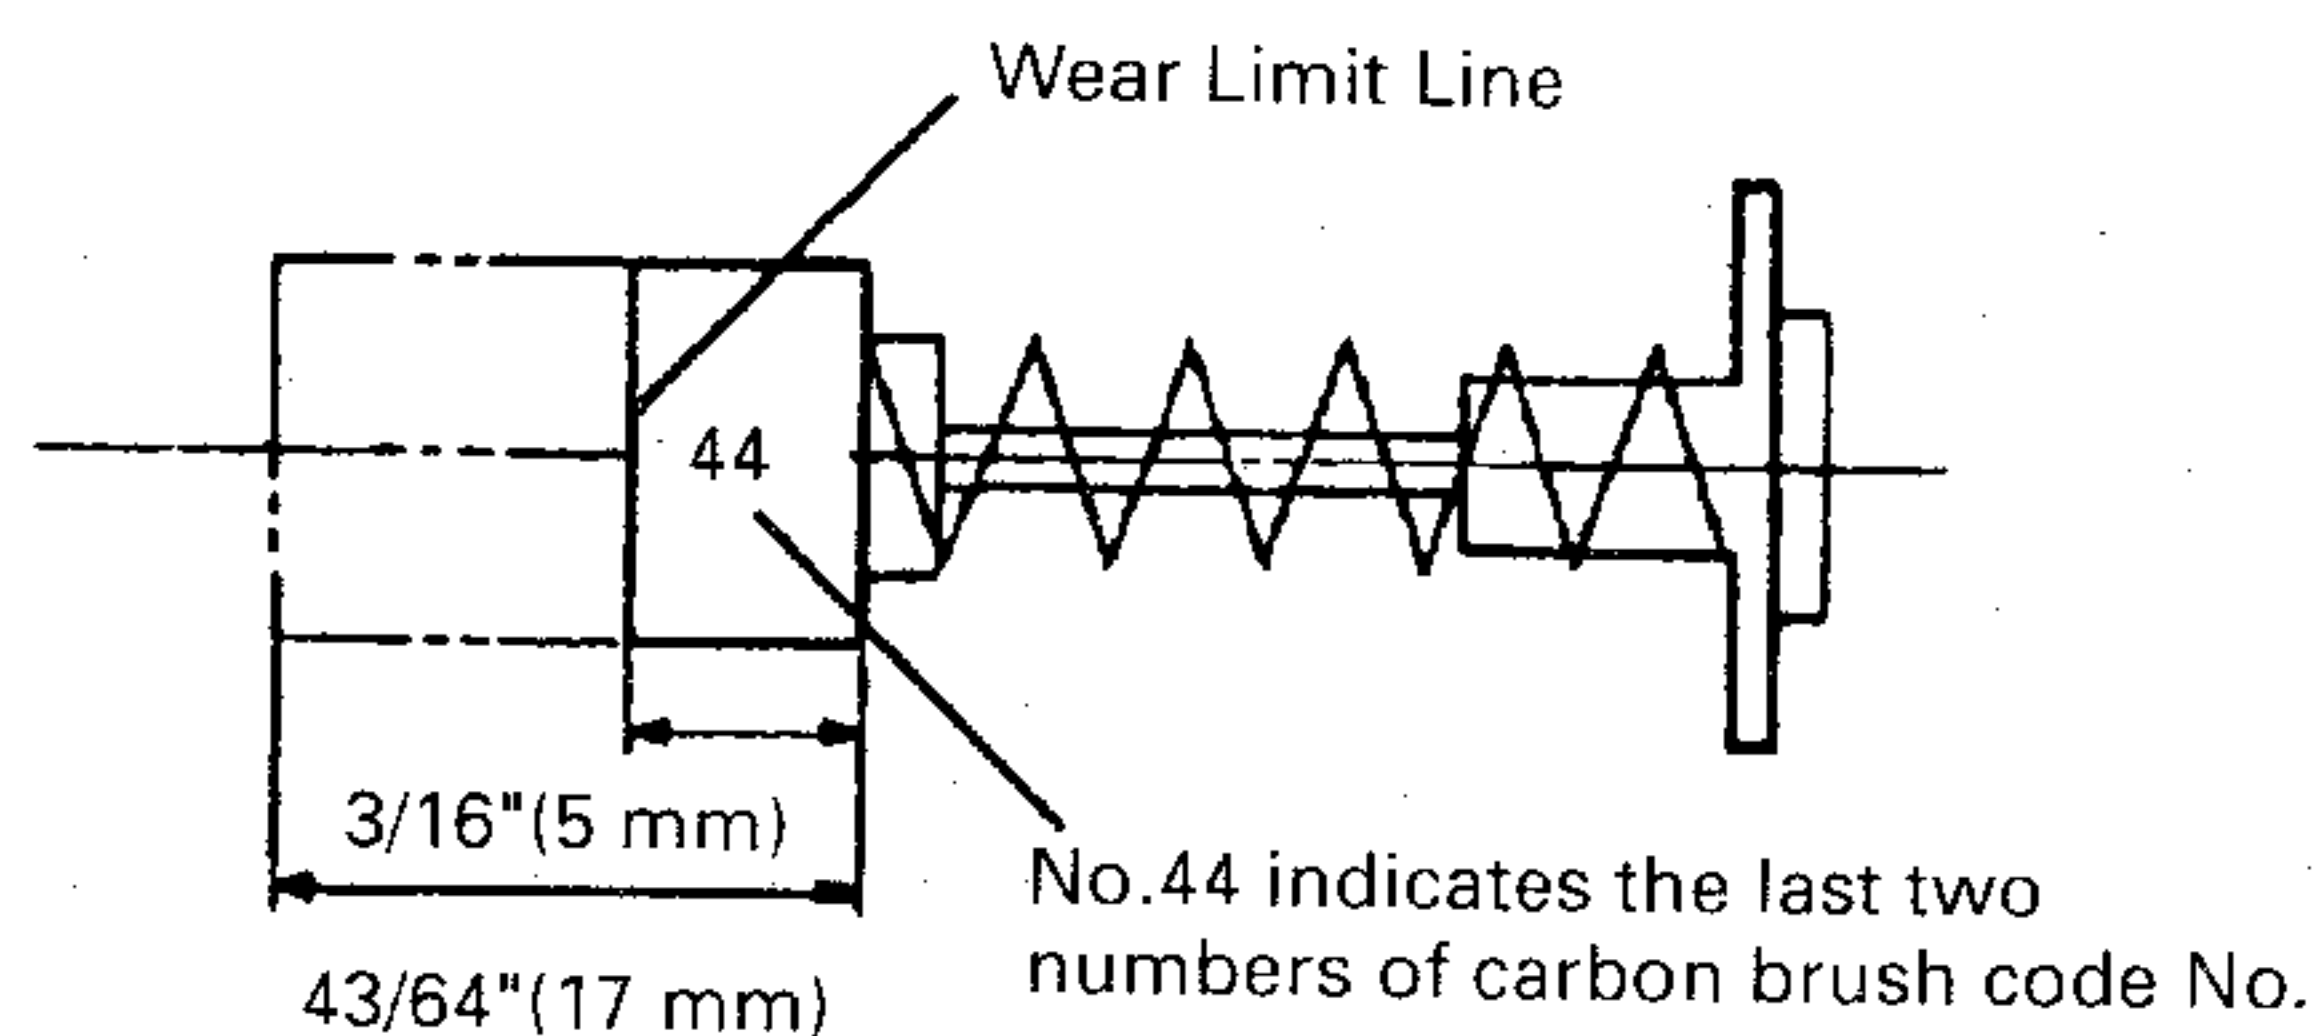
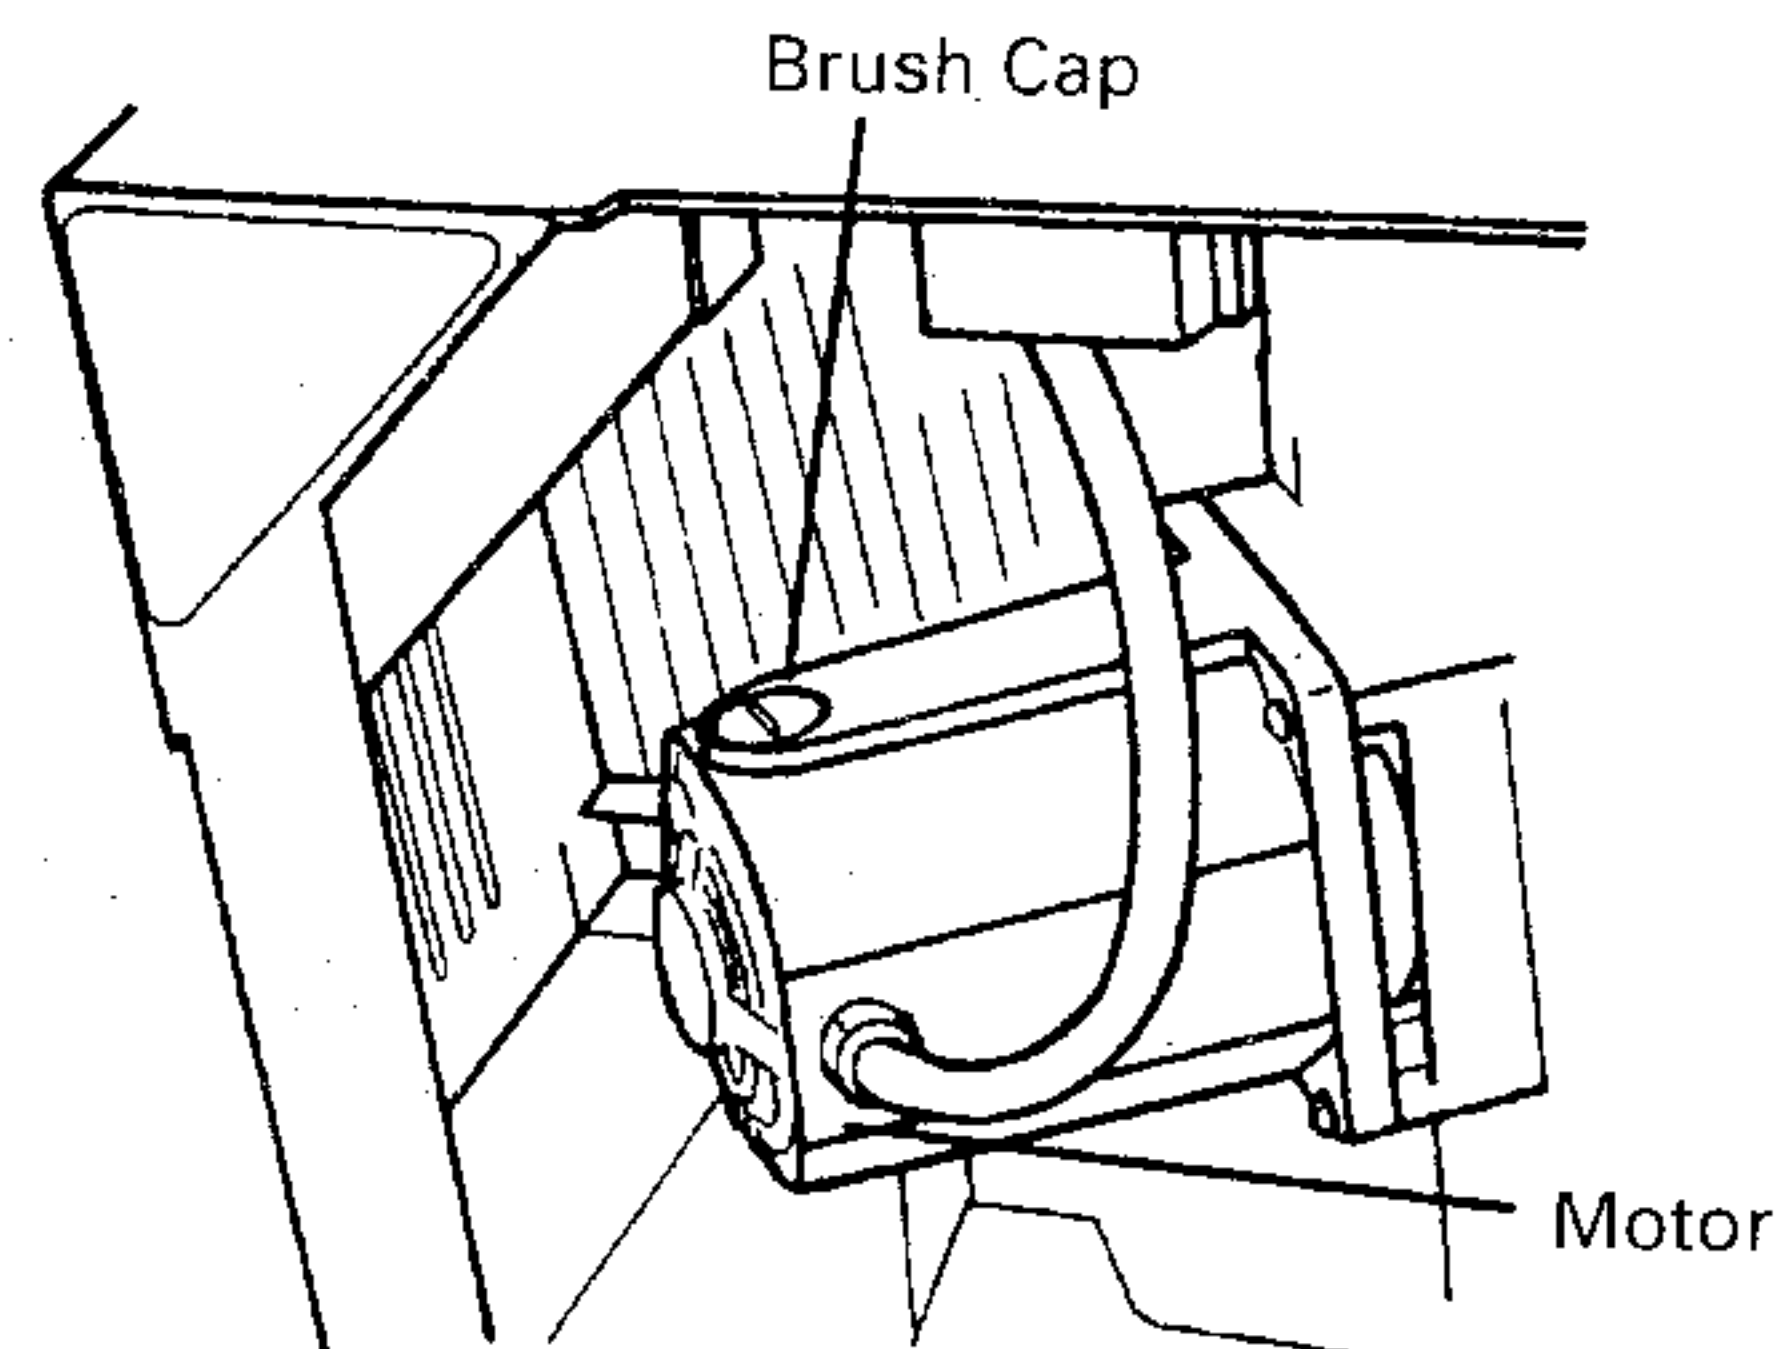

Fig. 35
Fig. 36
2. Inspecting the carbon brushes (Fig. 35 and Fig. 36)
When the carbon on either brush is worn to $3/16"$ (5 mm) in length or if either spring or shunt wire is burned or damaged in any way, replace both carbon brushes (see Fig. 35). If the carbon brushes are found serviceable after removing, reinstall them in the same position as before removed. Also, keep the carbon brushes clean so that they will slide smoothly within the brush holders. The carbon brushes can easily be removed after removal of the brush caps (see Fig. 36) with a slotted (minus) screwdriver.